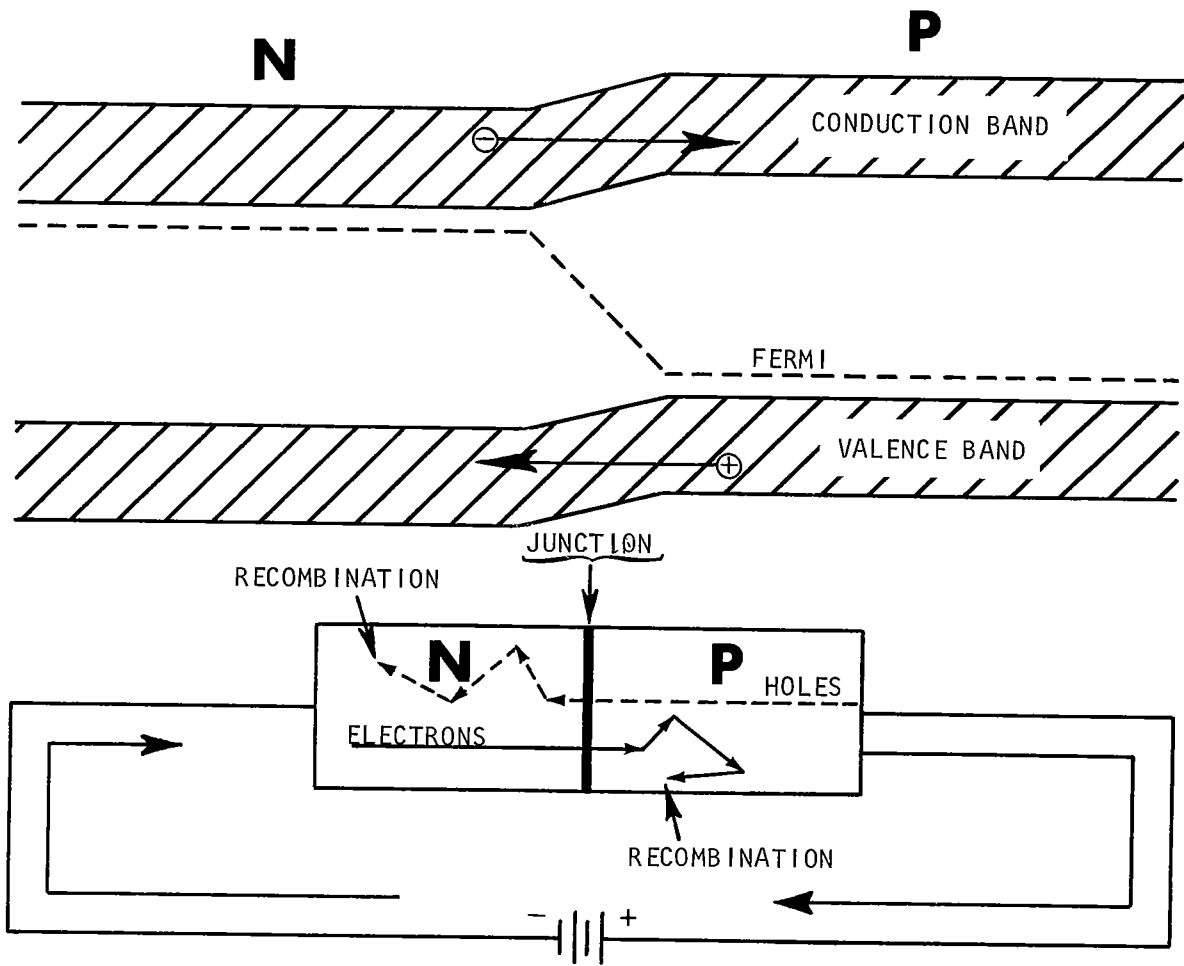

FIGURE 19B FORWARD BIAS
19.7 In figure 19B, the positive terminal of the battery is reducing the negative ionic charge of the P side and the negative terminal of the battery is \_\_\_\_\_ the positive ionic charge of the N side. This is \_\_\_\_\_ bias.
19.8 Forward bias enhances the movement of electrons from the N side into the P side. An electron leaving the N side to cross the junction will be replaced from the negative terminal of the battery in figure 19B. Electrons move from the negative terminal of the battery through the \_\_\_\_\_ band of the N side and move into the \_\_\_\_\_ side.
19.9 Holes crossing the junction from the valence band of the P side to the valence band of the N side in figure 19B must be replaced from the positive terminal of the battery. A \_\_\_\_\_ is formed or injected at the battery contact with the P side by removing an electron. An \_\_\_\_\_ leaves the P side and moves to the positive terminal of the battery when a hole is formed or injected.